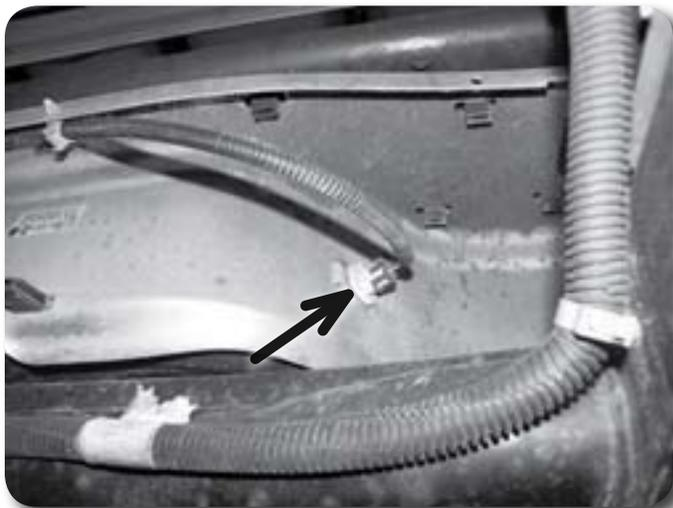
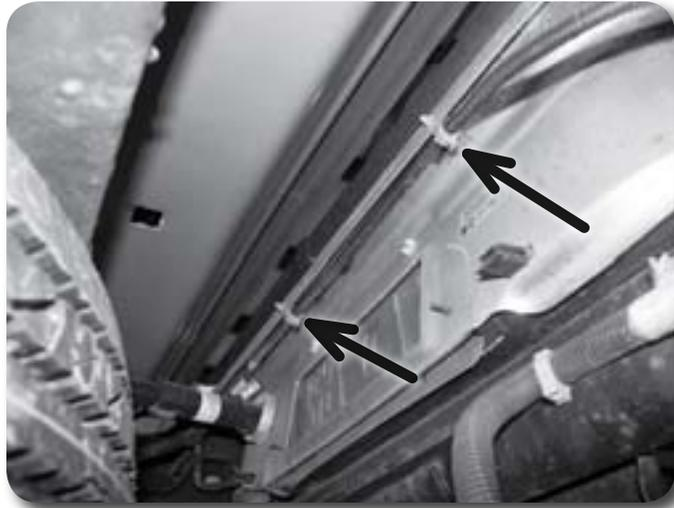

Figure 15
Figure 16
26. Disconnect the license plate lights from the bumper **Figure 15** and the license plate wiring harness from the retaining clips **Figure 16**.